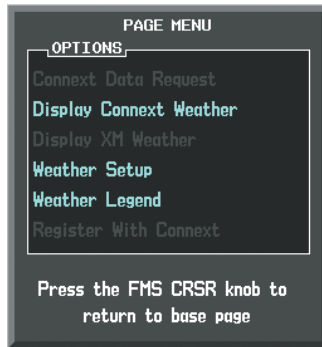

Figure 6-5 Weather Data Link (XM) Page Menu
- 1) Select the Weather Data Link (XM) Page.
- 3) With 'Weather Setup' highlighted, press the **ENT** Key (Figure 6-5).